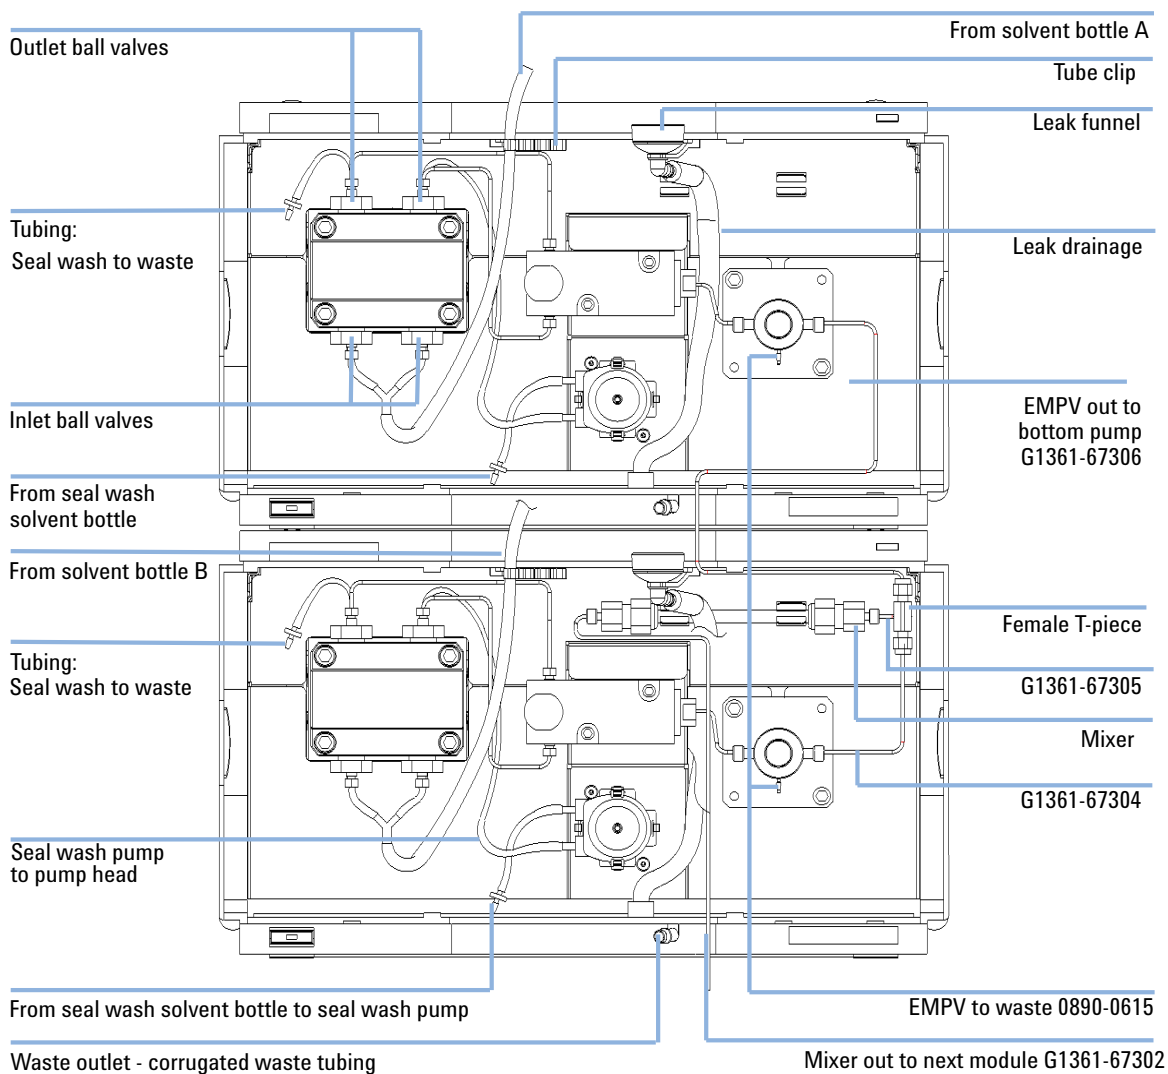

Figure 13 Flow connections to the preparative pump
- 12** Install the seal wash tubings, as shown in Figure 13 on page 48. You need - for each of the pumps - a tubing from your seal wash solvent bottle to the seal wash pump, one from there to the pump head and one from the pump head to waste.